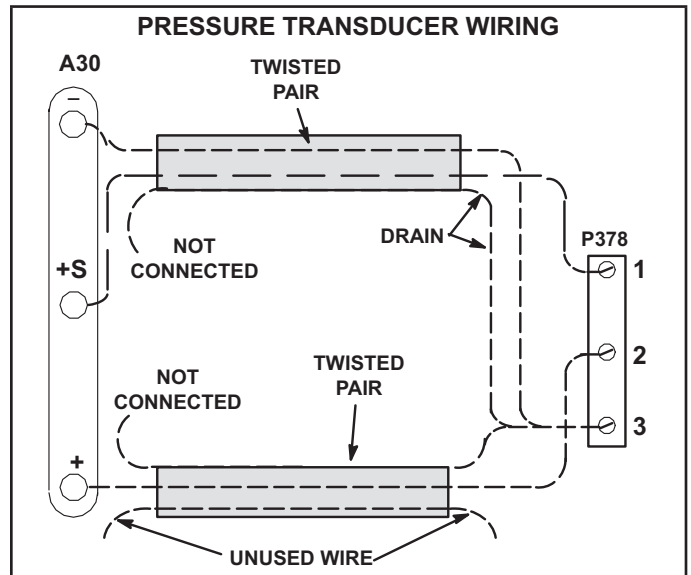

FIGURE 36
- 2 - Two twisted pairs of shielded cable must be used to connect the pressure transducer. See figure 36. J/ P378 connector is hanging in the control box.